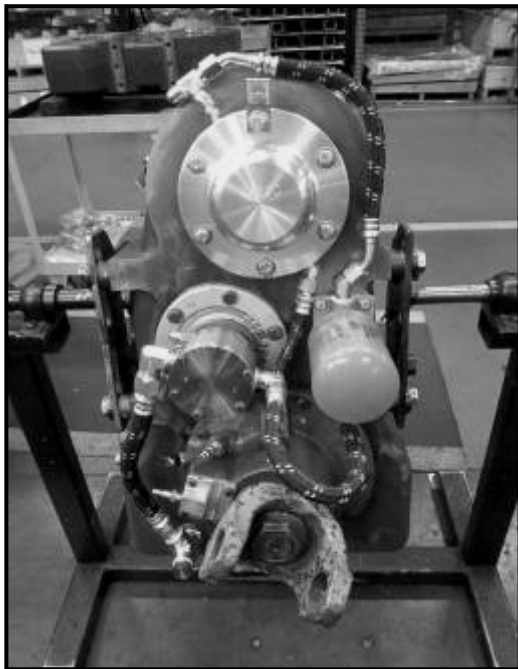

Figure 4
3. Mount the transfer case in a suitable fixture. The fixture should be such that the case can be rotated so that either its front or its rear is facing upward. A transfer case mounted in a typical fixture is shown in **Figure 4**.